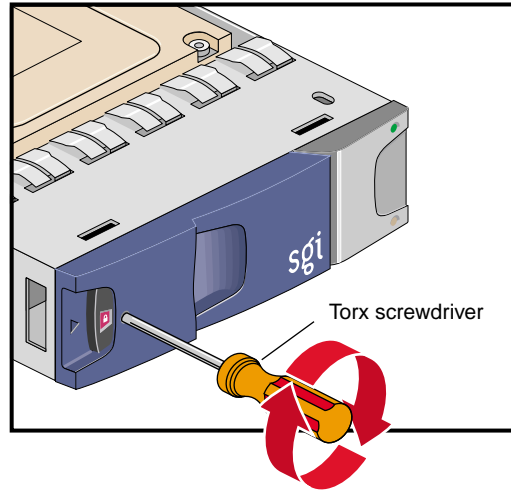

Figure 12-19 Locking the Drive Carrier Module
- When you finish installing the drive carrier module(s), lock the drive carrier module(s) in the chassis by inserting the Torx screwdriver in the drive module and turning it 90 degrees clockwise. The indicator in the drive carrier module turns red when the drive is locked. See Figure 12-19.